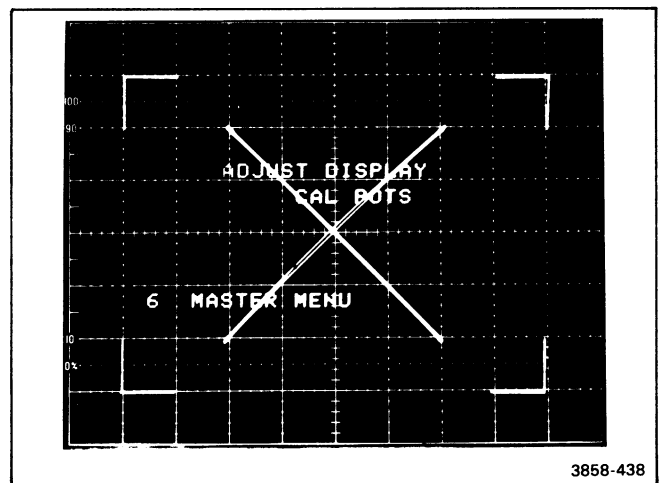

Figure 4-10. Display Adjust Pattern.
- f. While observing the DISPLAY CAL PATTERN displayed on the oscilloscope mainframe crt, use screwdriver to set VERT GAIN, VERT CTR, HORIZ GAIN and HORIZ CTR controls to place corner markers of DISPLAY CAL PATTERN on center 6 × 8 divisions of graticule, as shown in Figure 4-10.
- g. Set VECT LIN adjustment for minimum trace separation of the diagonal lines on DISPLAY CAL PATTERN as shown in Figure 4-10.